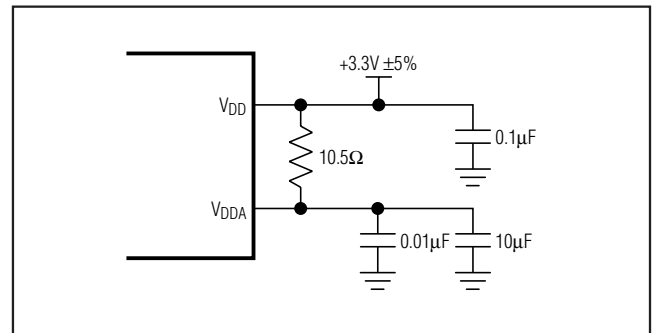

Figure 4. Analog Supply Filtering
- Note 1:** A series resistor of up to 10.5Ω is allowed between V_{DD} and V_{DDA} for filtering supply noise when system power-supply tolerance is $V_{DD} = 3.3V \pm 5\%$. See Figure 4.
The MAX3629 is a mixed analog/digital IC. The PLL contains analog circuitry susceptible to random noise. To take full advantage of on-board filtering and noise attenuation, in addition to excellent on-chip power-supply rejection, this part provides a separate power-supply pin, VDDA, for the VCO circuitry. The purpose of this design technique is to ensure clean input power supply to the VCO circuitry and to improve the overall immunity to power-supply noise. Figure 4 illustrates the recommended power-supply filter network for VDDA. This network requires that the power supply is +3.3V $\pm$ 5%. Decoupling capacitors should be used on all other supply pins for best performance.